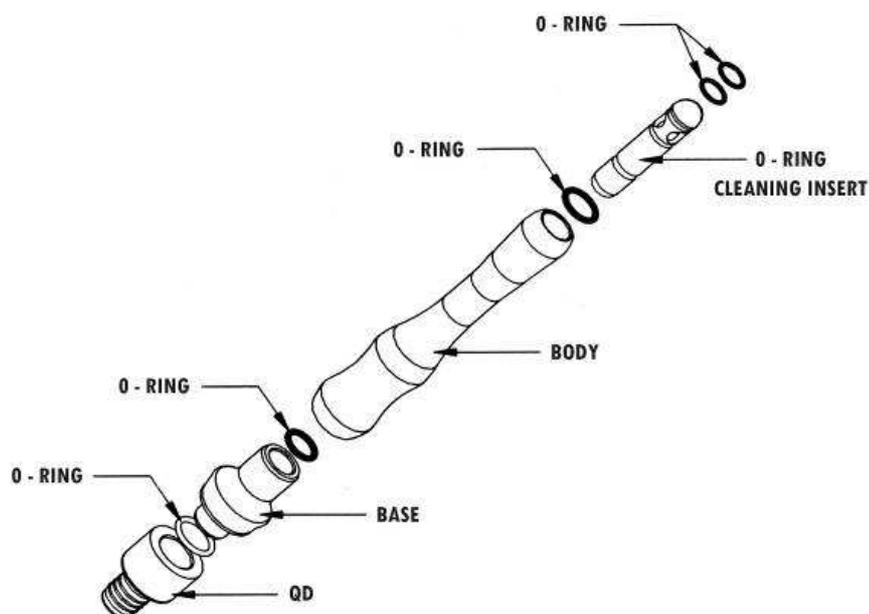

Figure 2
- 1). The Leverless HVE is composed of four parts: quick-disconnect swivel (QD), base, body, and O-ring cleaning insert (Figure 2).